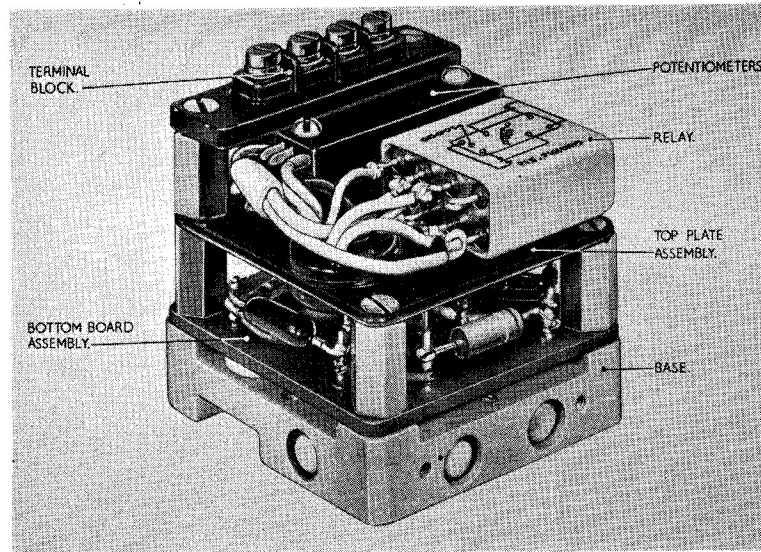

Fig. 2. View of unit with covers removed
3. The base of the unit is an aluminium-alloy extrusion and houses four Zener diodes and two transistors fitted with Helsyn sleeves, see view of unit with cover removed, fig. 2. A bottom board assembly of bonded glass fabric is secured directly to the base by four fixing studs; two resistors and a 250 μ F capacitor are mounted on it. The spacer type heads of the studs are tapped 6 B.A. and form pillars which support a top plate assembly. A sealed relay and two potentiometers are mounted on the top plate assembly. The potentiometers are mounted as a pair and are secured in position by 8 B.A. round-head screws and nuts and the relay is fixed in